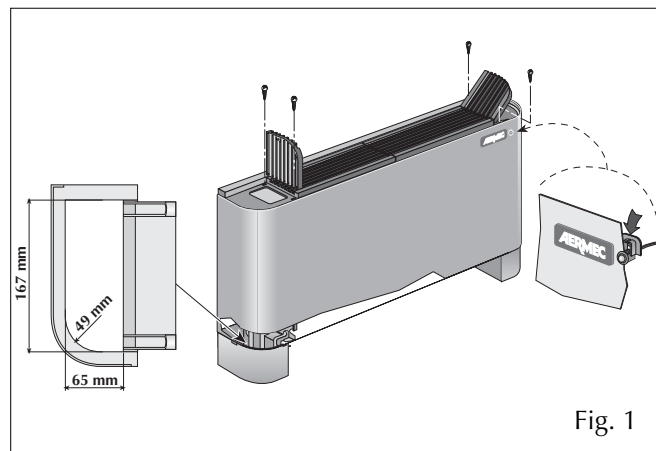

Fig. 1
- Remove the housing by loosening the screws (Figures 1 and 2), or the rear cover panel in the case of wall models, sizes 22 to 50.